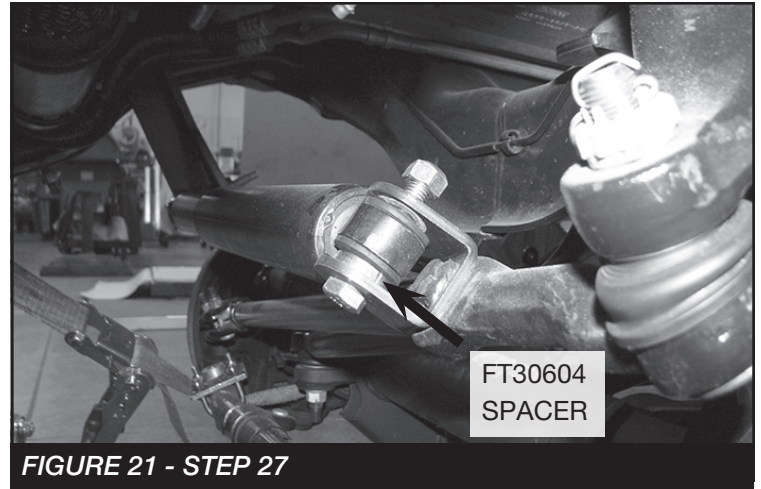

FIGURE 21 - STEP 27
27. Install FT30686 (Stabilizer Clevis) on the factory steering stabilizer using the supplied M12 hardware. **NOTE: Install FT30604 (spacer) like shown in the figure below.** Install the stabilizer using the supplied 1/2" washer and nut to the drag link. Using the factory hardware install the tapered end into the new Fabtech bracket. Torque to 127 ft-lbs. **SEE FIGURE 21**